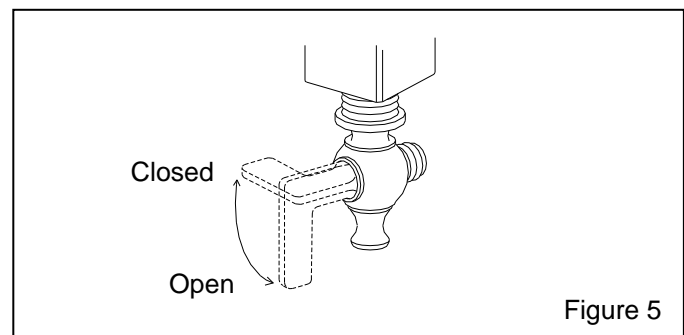

Figure 5
**3.2.10** Open the safety petcock on the inlet section of the Millennium valve. It is open when the lever is in-line with the petcock, as shown in Figure 5.